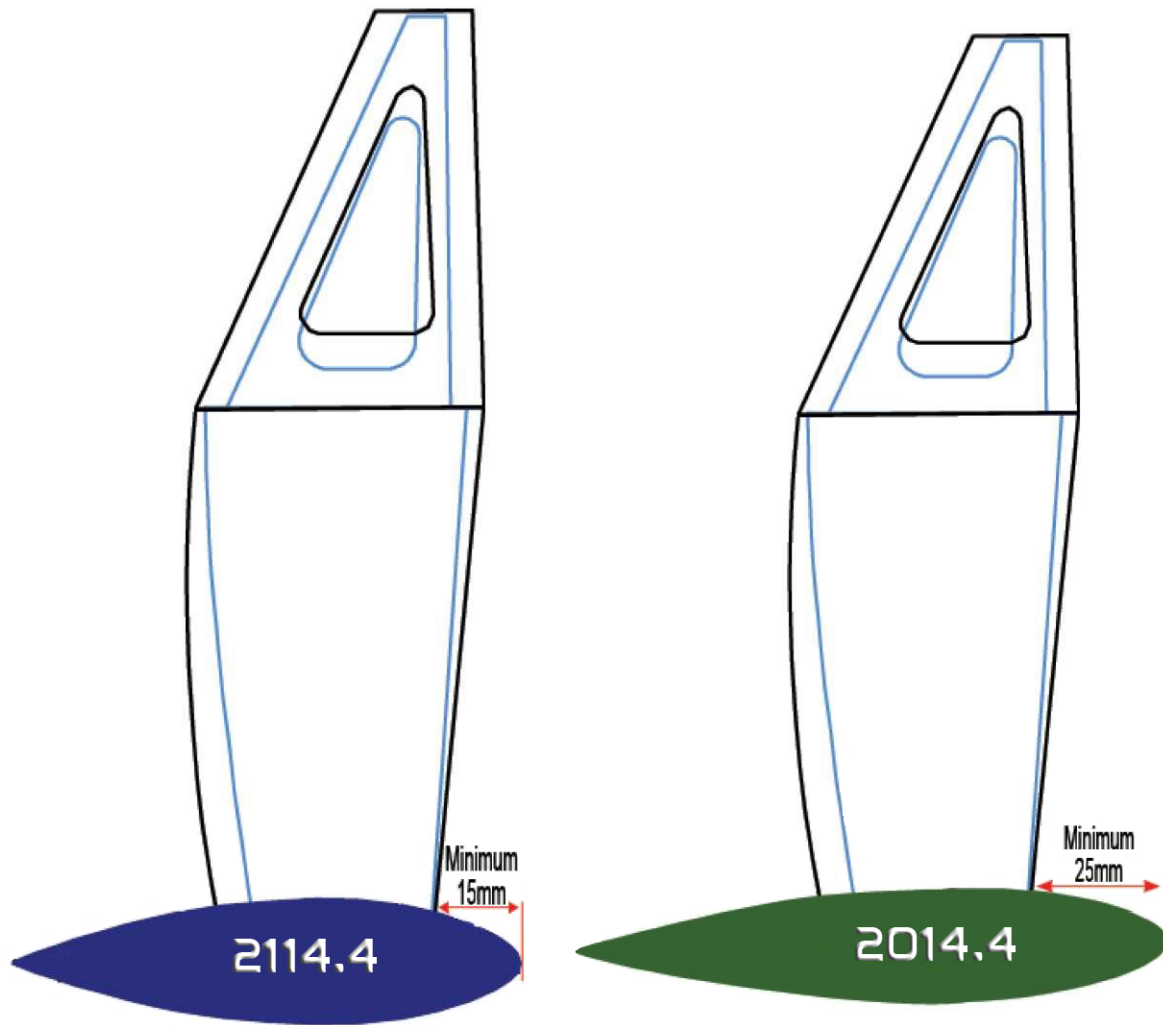

Figure 2: Positioning of Ballasts
3.9 The minimum-distance between the leading edge of the keel and the front of the ballast is 15mm for ballast cMM (Order No. 2114.4) and 25mm for ballast rMM (Order No. 2014.4) and ballast nMM (Order No. HCB2550x6). See figure 2.